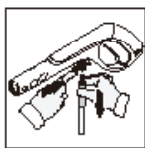
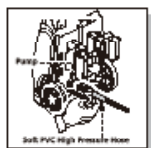

Fig. 21
Fig. 22
- Remove Soft PVC high pressure hose from spray gun (Fig. 21) and unscrew the other end of the high pressure hose from the power washer (Fig. 22).